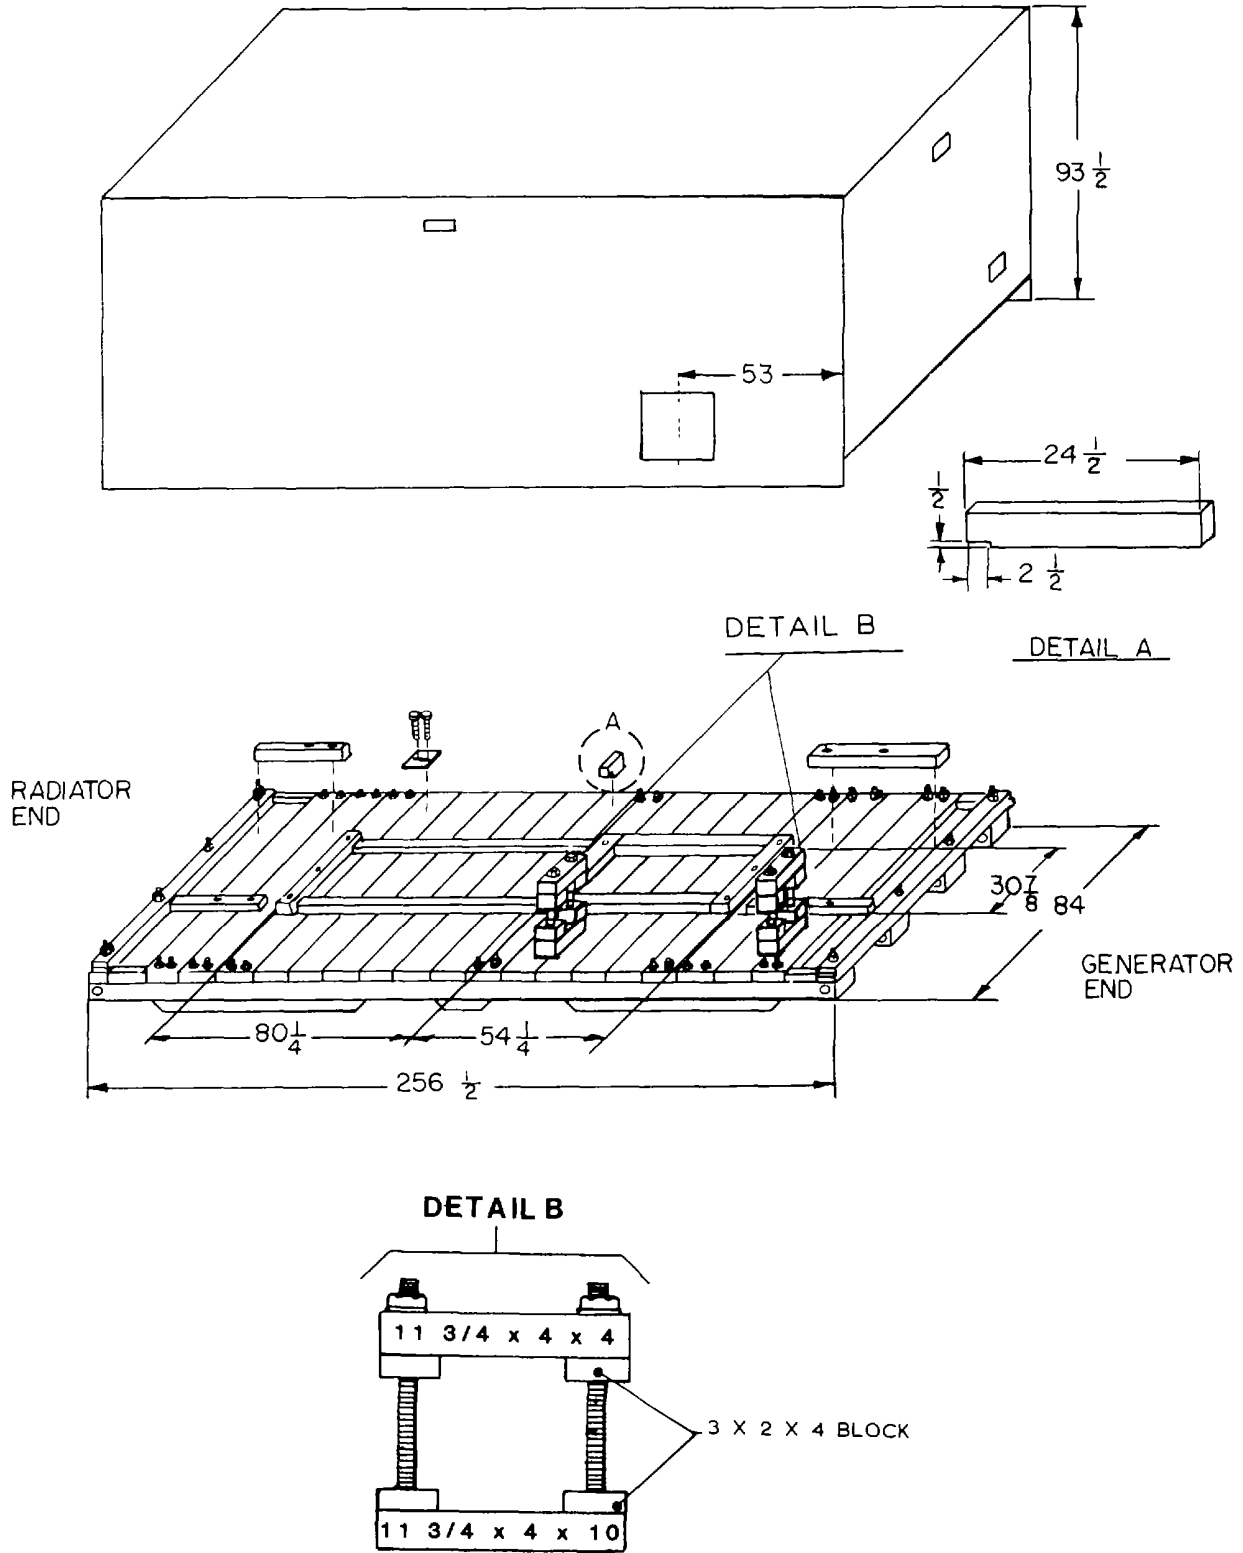

Figure B-2-1. Location of Blocking for the Generator.
<p>2 cont</p>	<p style="text-align: center;">NOTE</p> <p>The diesel generator and control unit requires similar crates. Refer to the material lists for the generator and control unit prior to fabrication of crates to enable cutting of like sizes at the same time.</p> <ol style="list-style-type: none"> <li>(1) Fabricate a MIL-C-104 crate (252-1/2 X 81 X 93-1/2) in accordance with appendix D-3. Refer to table B-2-1 for a list of materials.</li> <li>(2) Cover base with MIL-B-121 barrier.</li> <li>(3) Bolt on nesting frame. Refer to figure B-2-1 for location.</li> <li>(4) Install generator and block. Refer to figure B-2-1 for location of blocking.</li> <li>(5) Apply a light film of MIL-C-16173, grade 1 preservative compound to the slings.</li> <li>(6) Mount the lifting device and slings on cradle beside one of the generators. Refer to figure B-2-1 for location.</li> <li>(7) Place crate top over generator and secure to base with FF-B-561 lag bolts (1/2 x 4).</li> <li>(8) Mark containers in accordance with appendix E and the following:               <ol style="list-style-type: none"> <li>(a) Mark all four sides of the container with 2-inch minimum size letters to indicate "REUSABLE CONTAINER - DO NOT DESTROY."</li> <li>(b) Mark the container in which the lifting device and slings are stored with 2-inch minimum size letters to indicate "LIFTING DEVICE HERE."</li> </ol> </li> </ol>